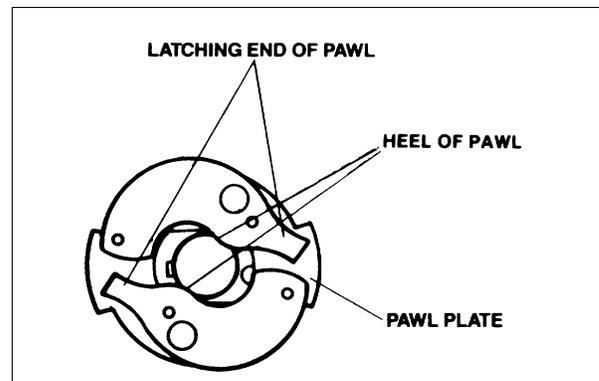

Figure 74-4. Impulse Coupling Pawls
- (d) Inspect impulse coupling pawl latching ends (see Figure 74-4). If rounded, peened, or excessively worn, replace impulse coupling.
- (f) Measure the clearance between the boss on the underside of each impulse pawl and the pawl plate using a feeler gauge. Position the latching end of the impulse pawl over the pawl plate as shown in Figure 74-4.